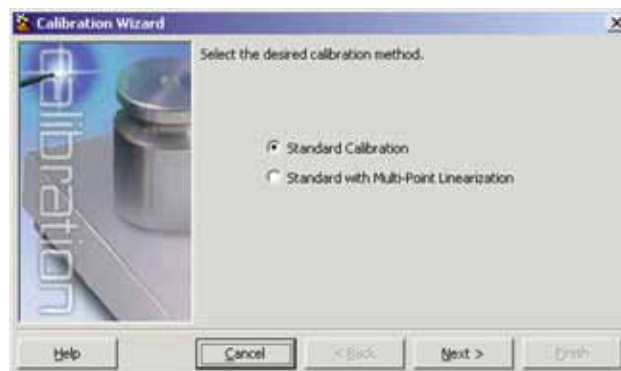

Figure 4-3. *iRev 4* Calibration Wizard
1. On the first Calibration Wizard display (see Figure 4-3), select standard (zero and span) calibration or a multi-point linear calibration. Click the **Next** button to continue.